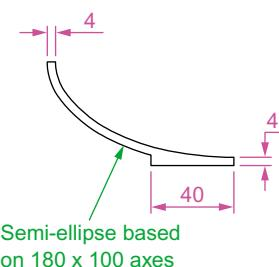

Fig. 12.20 Second example – Revolve. The pline outline
3. Construct the pline outline (Fig. 12.20).